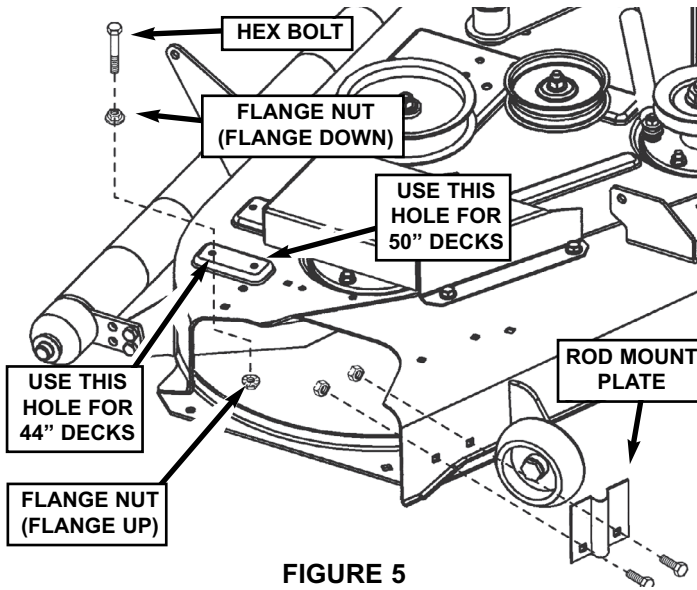

FIGURE 5
a. Install the 1/4 x 2-1/2" hex bolt, fitted with one 1/4-20 flange nut threaded all the way up to the end of the thread, into the noted hole in the rear of the deck. See Figure 5. Secure with a second flange nut, tightening securely.
b. Attach the rod mount plate to the right front of the deck with two 5/16 x 3/4" hex bolts and center lock nuts, tightening securely. See Figure 5.